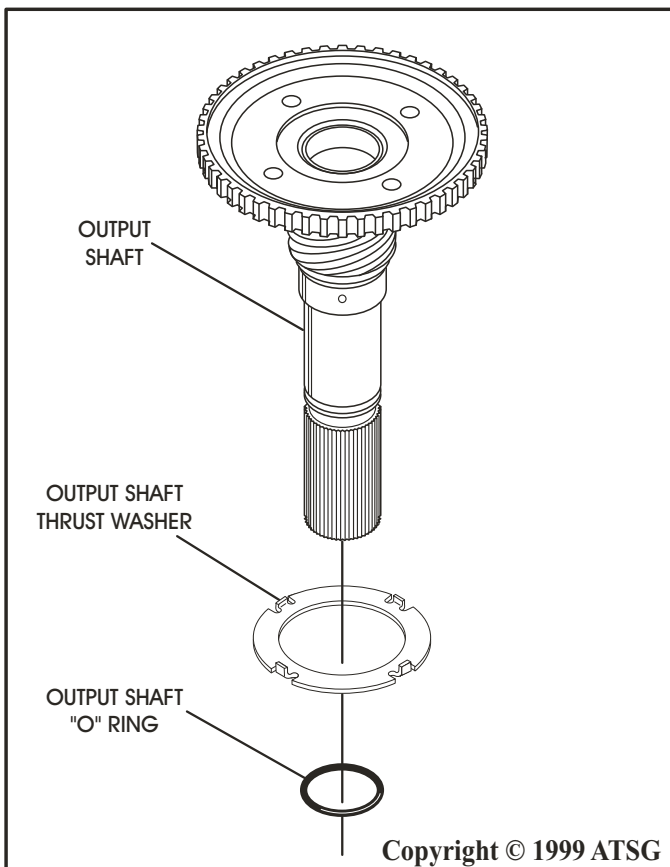

Figure 61
16. Install the output shaft thrust washer onto the output shaft and ensure that the tabs engage in the holes in output shaft (See Figure 61).